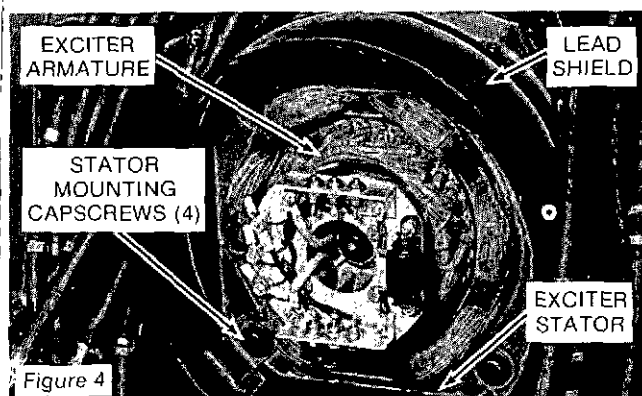
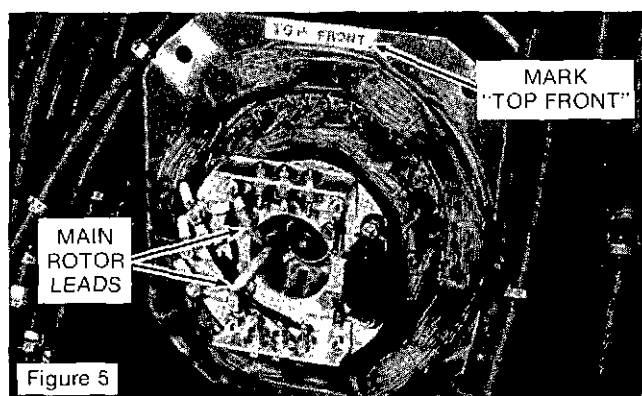

Figure 4
Figure 5
2. Remove all lead fasteners connecting F1 and F2 leads to the front end bracket or conduit box. Remove the four capscrews and belleville washers holding the exciter stator and lead shield in place. (See Figure 4.) Remove the lead shield. Mark the exciter stator "top front" for reference. (See Figure 5.) Remove the exciter stator.